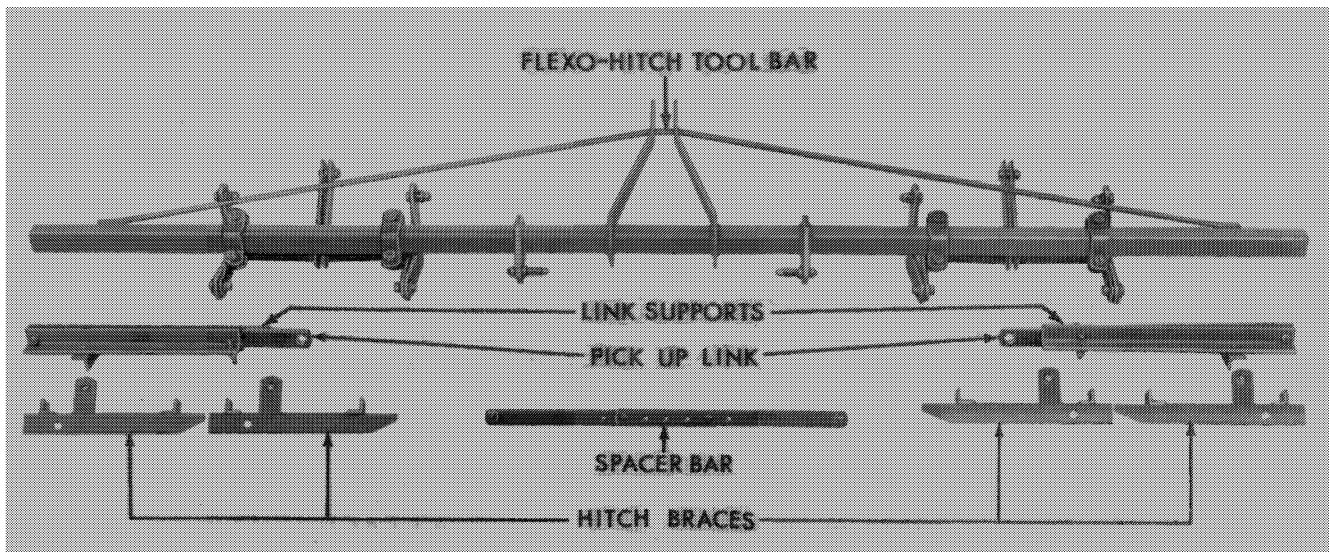
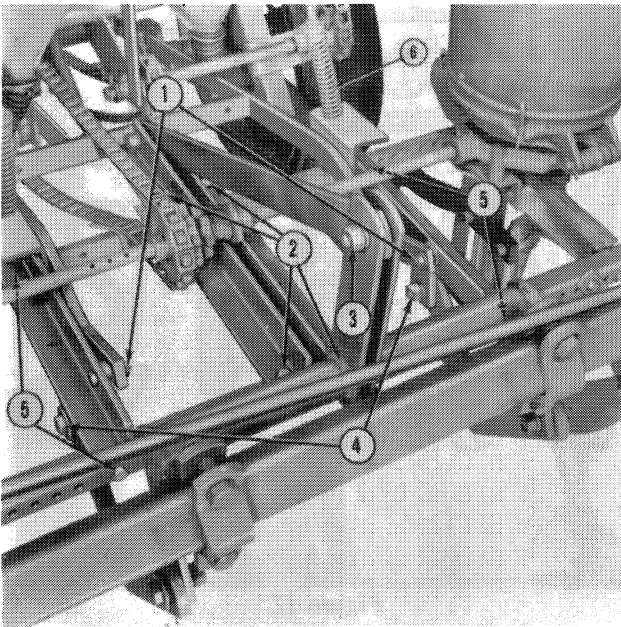
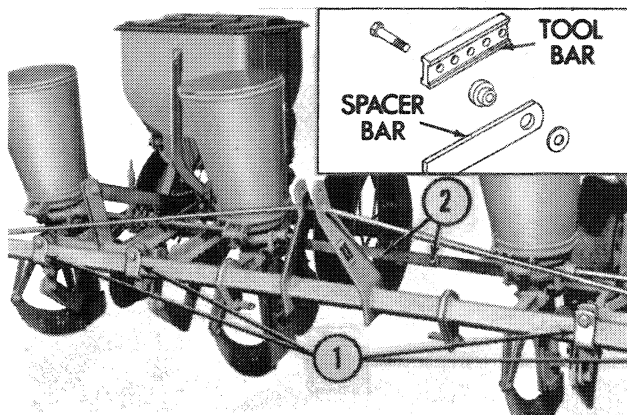

Figure 11
Figure 12
Figure 13
Shipping Information: The 12-226 Hitch Assembly (one required) is shipped in two bundles as shown in Figure 11. Bundle No. 114046 contains the tool bar and attached assemblies. Bundle No. 126775 contains the support and brace assemblies.
Attaching: Begin attaching the hitch by bolting the four hitch braces, shown in Figure 11, to the front and rear tool bars as shown at (5), Figure 12. The nuts, bolts, and lock washers to be used are already positioned in the front and rear tool bars of the basic planter units. Use the four 7/16" x 2-1/2" bolts and spacer, provided with the Flexo-Hitch Assembly, to
attach the front ends of the wheel frame to the Flexo-Hitch braces. Two of these bolts are shown in place at (1), Figure 12. Attach the left and right link supports, shown in Figure 11, to the front and rear tool bars at the points shown at (2), Figure 12. The bolts used are 7/16" x 2-1/2" at the front tool bar and 7/16" x 1-3/4" at the rear tool bar. Position the two basic planter units side by side and attach the spacer bar to the rear tool bar of each unit. Secure with the 3/8" x 1-3/4" bolts, lock nuts, and flat washers provided with the spacer bar as shown in the Insert, Figure 13. Move the four-row tool bar in front of the planter units. Attach the "L" shaped pull links to the outside of the link supports on the four hitch braces, using the 5/8" x 2" bolts, spacers, lock washers, and nuts as shown at (4), Figure 12.
NOTE: It may be necessary to loosen the clamps (1), Figure 13, remove the bolts (2), and reposition the floating hitch assembly when performing the above operation. It is also necessary to loosen the clamps (1) and remove the bolts (2) whenever the spacing between the two basic planter units is changed.
When the four front pull links are attached, lift the tool bar into position and attach the rear pickup links using the 5/8" x 1-1/2" bolts, spacers, lock washers, and nuts as shown at (3), Figure 12.